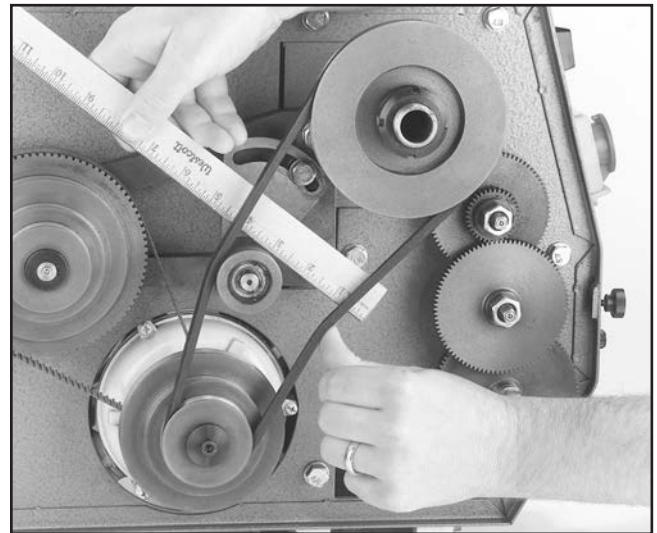

Figure 50. Checking for proper V-belt tension.
6. Move the pulley bracket into the belt and tension it until there is about 1/2" deflection on the side of the belt that is opposite of where the tensioner is making contact. **Figure 50** shows how to check for proper tension by using a ruler and your thumb. *Note—only moderate pressure is needed to check belt tension!*